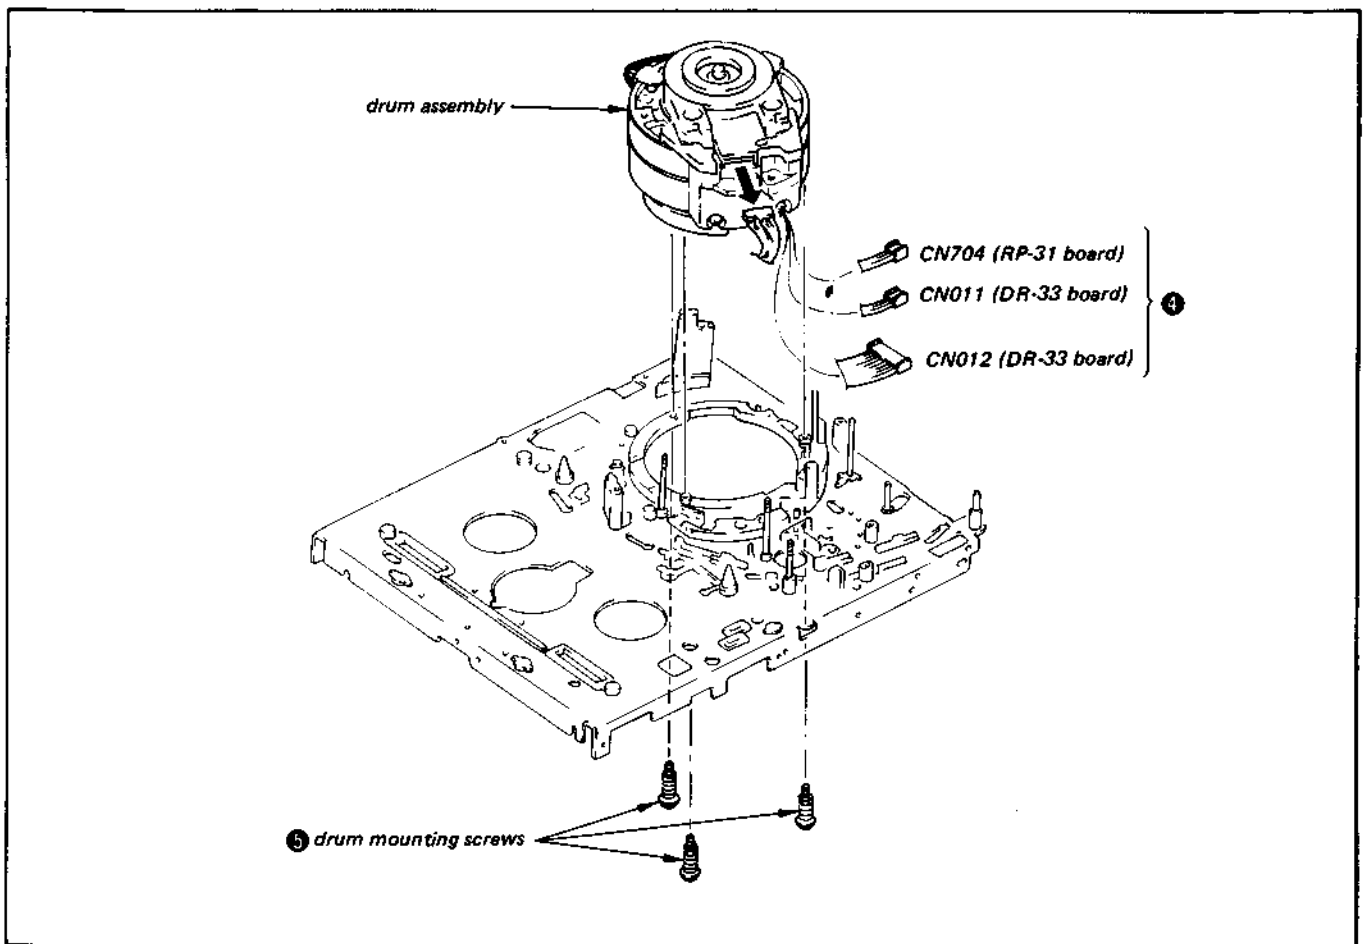

Fig. 3-14 Removal of the drum assembly
- 4) Remove the 3 connectors **4** from the rear of the chassis as shown in Fig. 3-14.